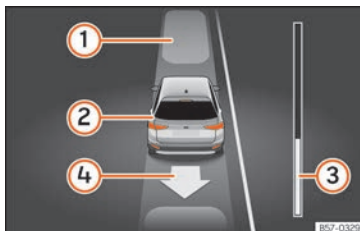

Fig. 188 On the instrument panel display: exit a parallel parking space.
- Reverse until the continuous ParkPilot signal sounds; **OR:** reverse until the instrument panel display shows the forward indication. The progress bar » **Fig. 188 ③** indicates the distance to cover » **page 265**.